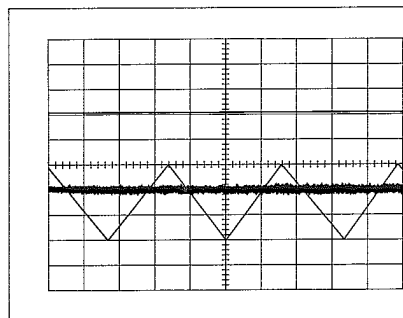

Figure 3-11 R401 adjusted to flatten “noisy” triangle signal
9. Adjust A32**R401** for a flat "noisy" trace as shown in figure 3-11.